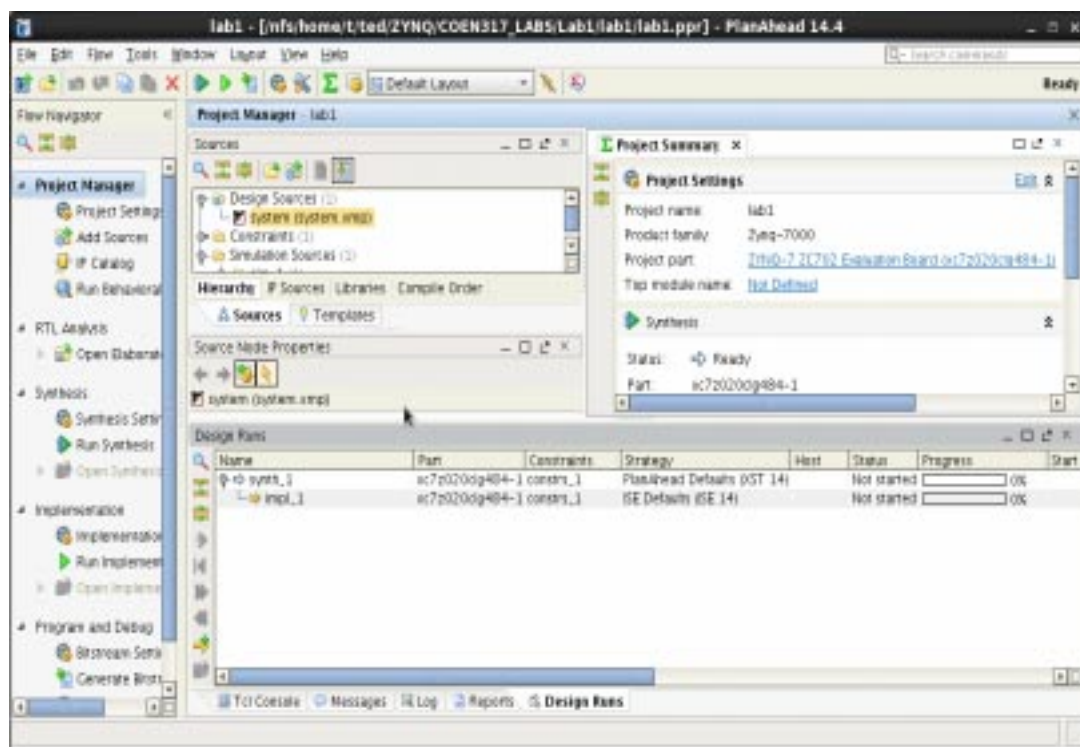

Figure 10. Creating the Top HDL.
6.1 In the PlanAhead window (Figure 10) , within the top middle Project Manager pane, right click the system(system.xmp) and select Create Top HDL.